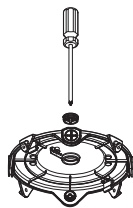

Figure 1-2
2. Loosen the 3/4" plug on the driver box cover with a screwdriver. Figure 1-2